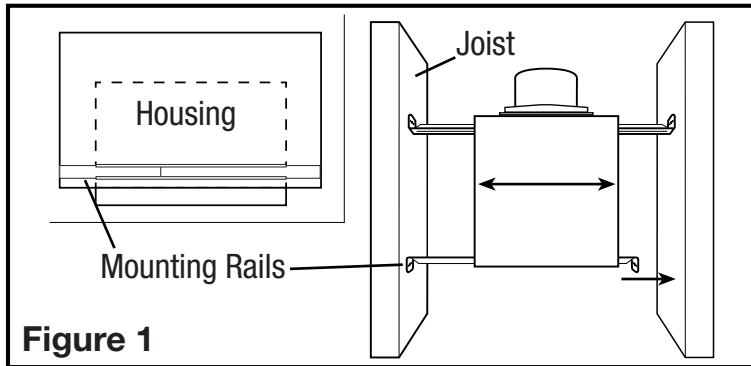
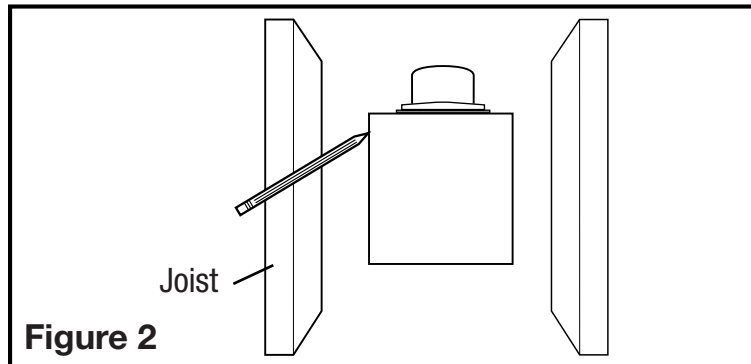

Figure 1
Figure 2
1. Install the rails into the mounting channel on the housing. Center the mounting channel in the slots on the housing, then from inside the housing tighten the mounting channel nuts so the channel is securely in place. Position the housing next to the joist. Line up housing so that it will be flush with the finished ceiling. Secure the ends of the rails with screws or nails (not included) to the joists and slide the housing into the final position (**Figure 1**).
1. Set housing in position between the joist and trace an outline onto the ceiling material (**Figure 2**). Set housing aside and cut opening, being careful not to cut or damage any electrical or other hidden utilities. Install the rails into the mounting channel on the housing. Center the mounting channel in the slots on the housing, then from inside the housing tighten the mounting channel nuts so the channel is securely in place. Position the housing in the previously cut hole so that it is flush with the finished ceiling. Secure the ends of the rails to the joists (**Figure 1**).